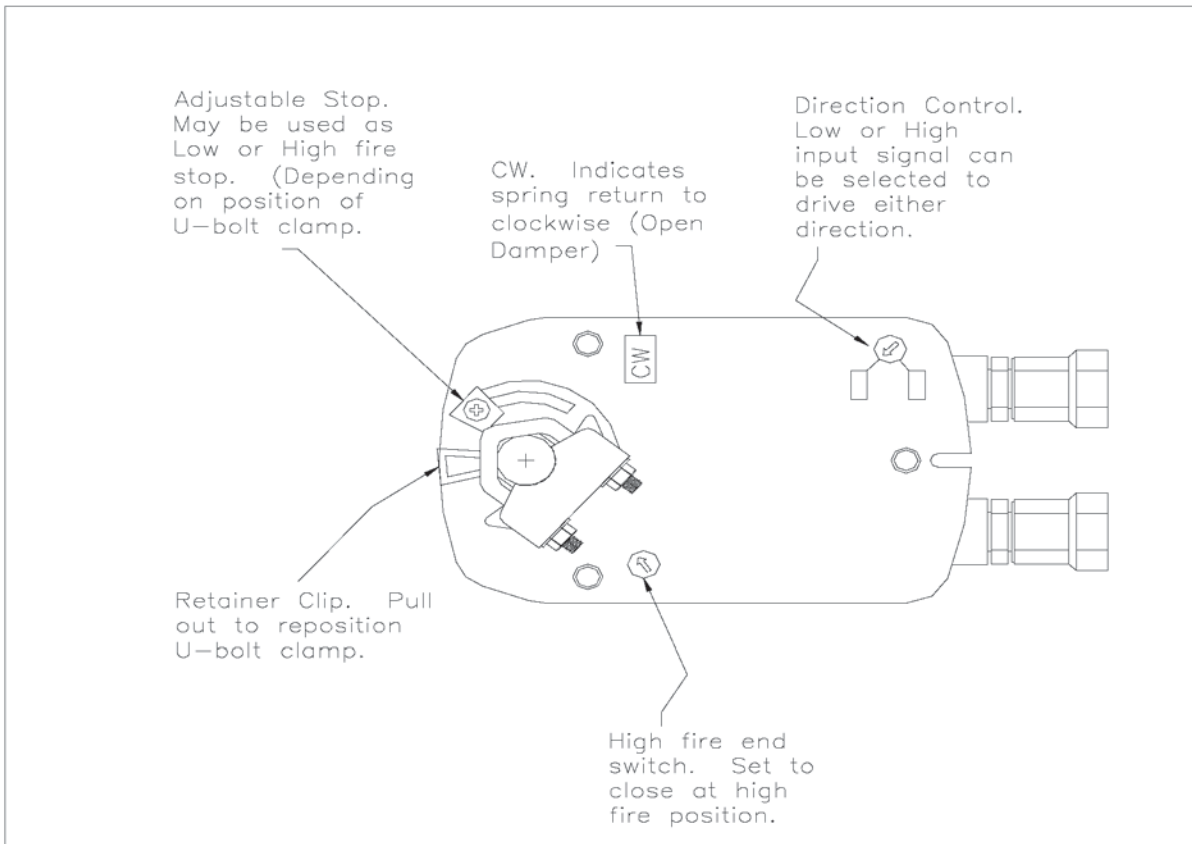

Figure 15: Belimo LF24-SR-S Actuator
- 11.8 Modulation of the burner is now accomplished by the control signal. Depending on the setting of the Direction Control Switch located on the actuator (**Figure 15**), a low or high input signal can drive the actuator clockwise or counterclockwise (low fire or high fire).
- 11.9 An adjustable stop located on the actuator (**Figure 15**), is used to limit the high fire or low fire position. If the high fire damper position is changed due to a lower than maximum firing rate, the pilot should be re-checked at this new damper position.
- 11.17 Modulation of the burner is now accomplished by the control signal. Depending on the setting of the Direction Control Switch located on the actuator (**Figure 15**), a low or high input signal can drive the actuator clockwise or counterclockwise (low fire or high fire).
- 11.18 An adjustable stop located on the actuator (**Figure 15**), is used to limit the high fire or low fire position. If the high fire damper position is changed due to a lower than maximum firing rate, the pilot should be rechecked at this new damper position.